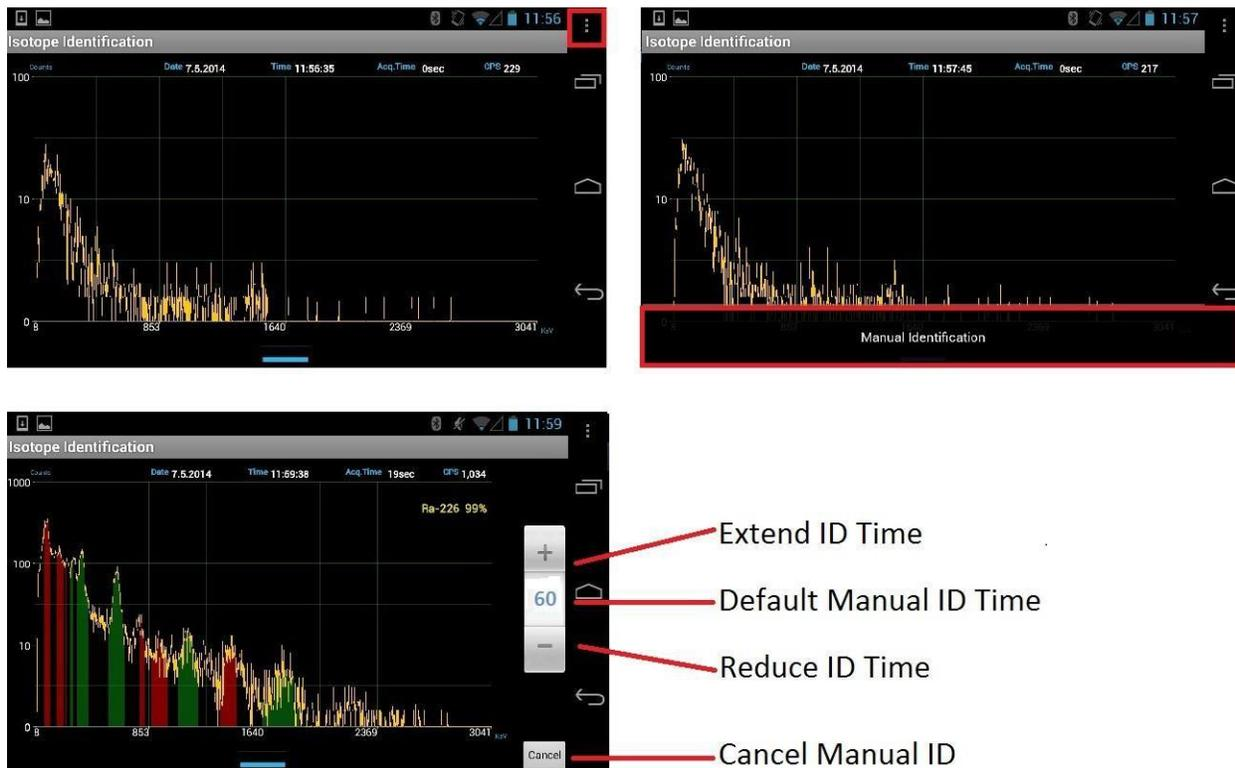

Figure 4.16. Manual Identification example
2. Touch the menu button  to display the Manual Identification bar at the bottom of the screen (Figure 4.16).